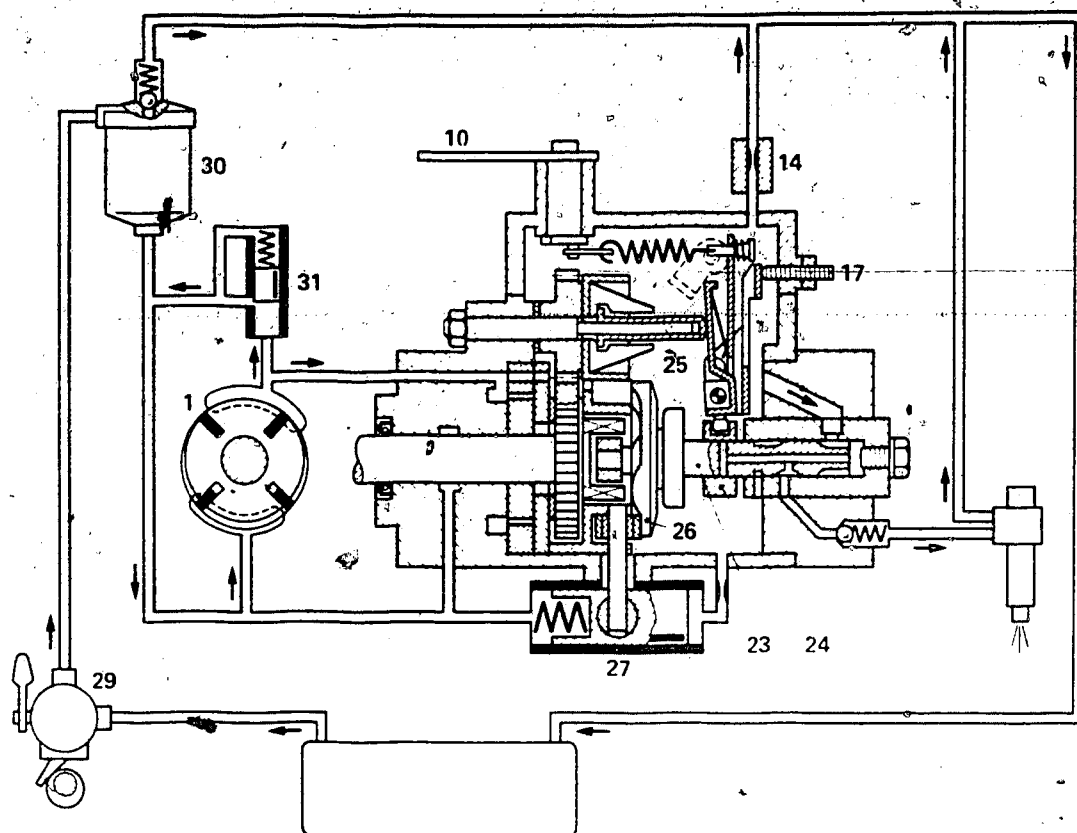

Fig. 2
Legend for Figs. 2 and 3
1. Fuel circuit and circulation (Fig. 2)